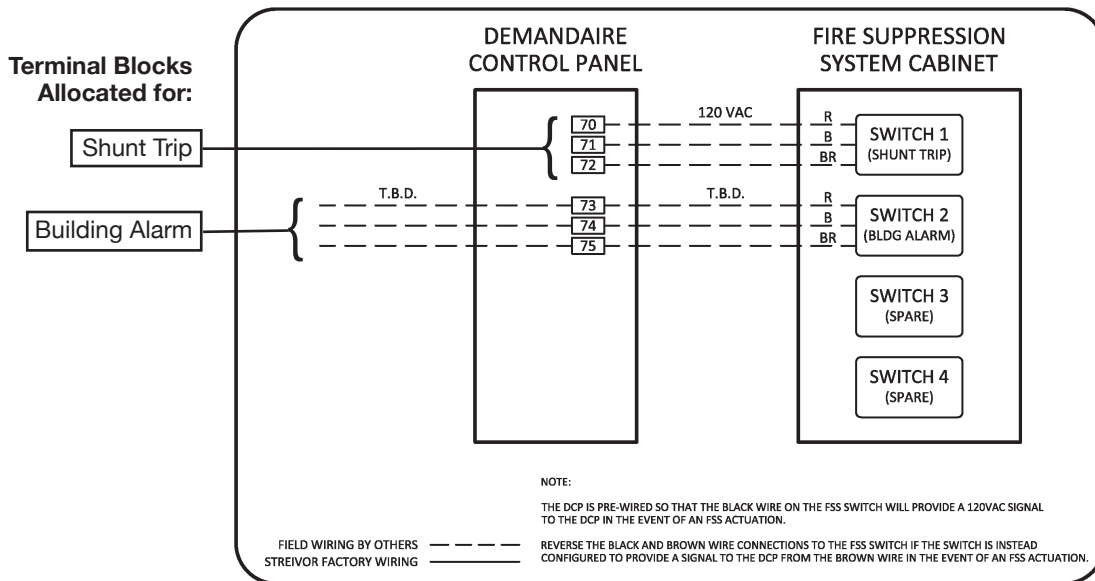

**FIGURE 7: Internal Hood Fan Power Circuit Wiring**
- Connect 120 VAC single phase power from terminal block 3 (hot), terminal block 4 (neutral), and *ground* in the control panel to the wires labeled “IHF” in the junction box on each hood (Figure 7).